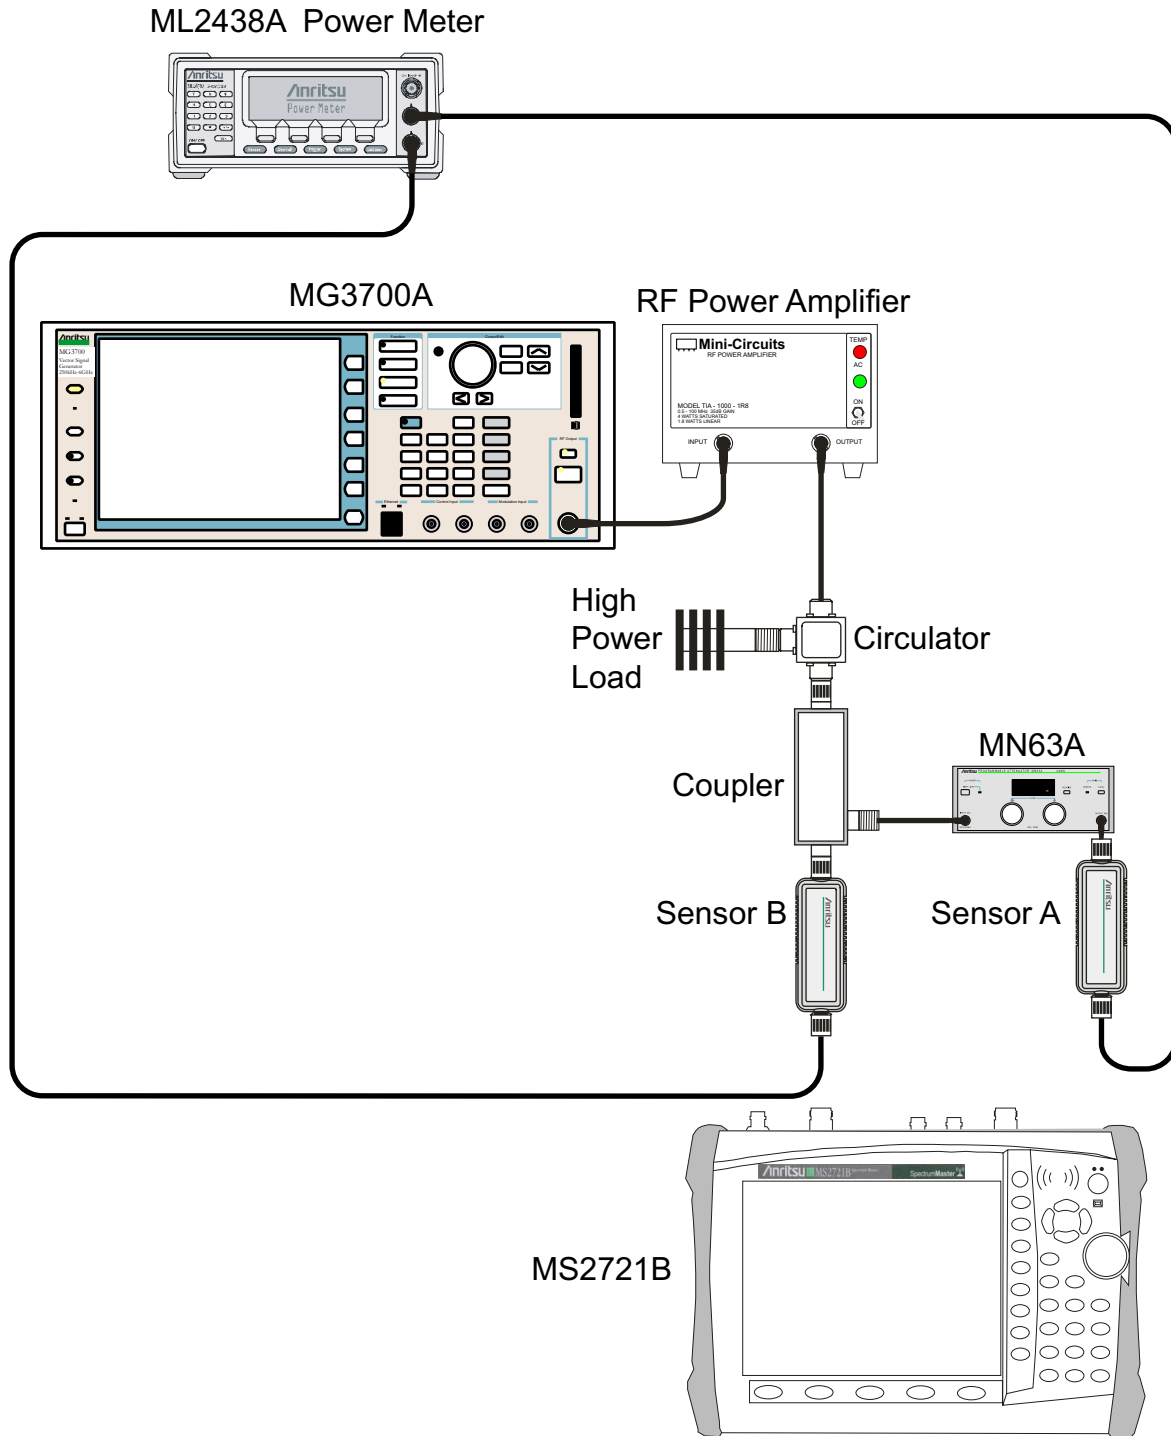

Figure 3-14. WCDMA/HSDPA Signal Analyzer Characterization Setup
1. Connect the MG3700A, RF power amplifier, attenuator, power meter, and sensors as shown in Figure 3-14.
4. Press the **On/Off** key to turn on the MS2721B and wait until the measurement display appears, then press the **Shift** key and press the **Mode** (9) key to activate the mode selection menu.
6. Press the **Shift** key, the **Preset** (1) key, and then the **Preset** soft key.